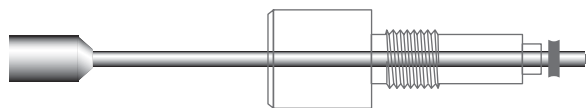

Fig. 2—Diagram of Side Fitting Electrode Cap with electrode and gasket in place.
3. Insert the electrode through the opening in the Side Fitting Electrode Cap. Once inserted, install a gasket on the electrode sleeve, about 5 mm from the end (Fig. 2). **TIP:** wet the gasket first.